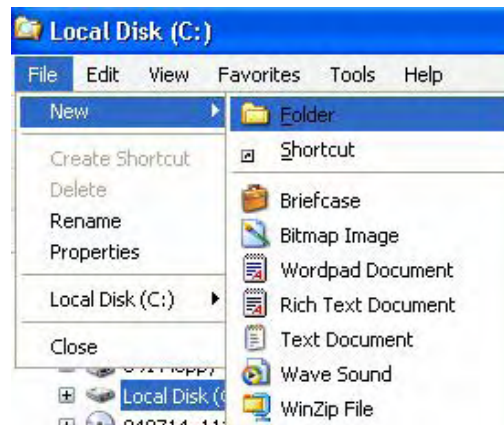

Figure 1-72 Explorer Window – File, New, and Folder
1. Select **File**, **New**, and **Folder** on the "Windows Explorer" menu bar (Figure 1-72).